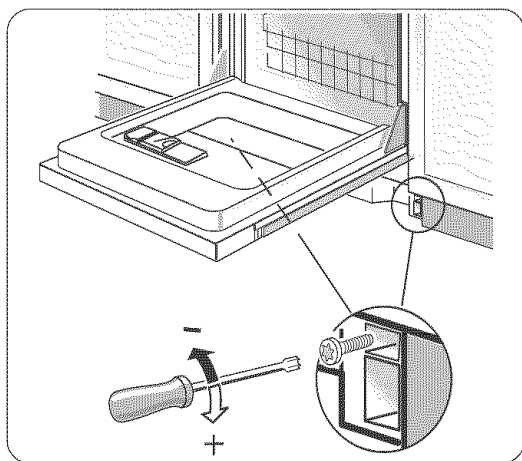

Figure 29
- 2) Insert the screws as shown in Figure 29. Turning the screw clockwise increases the spring tension. Turning the screws counter-clockwise decreases the spring tension.